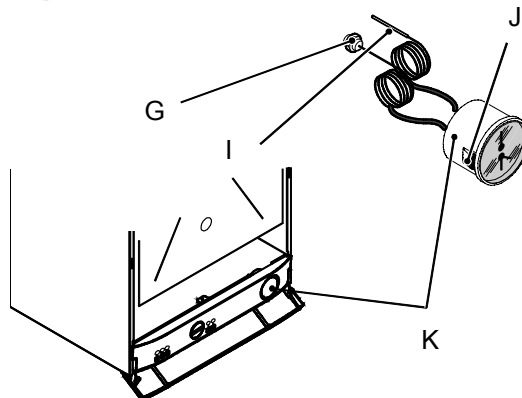

Figure 6
- 5) Squeeze the tabs J to release the temperature-pressure gauge K and remove it (Figure 6).